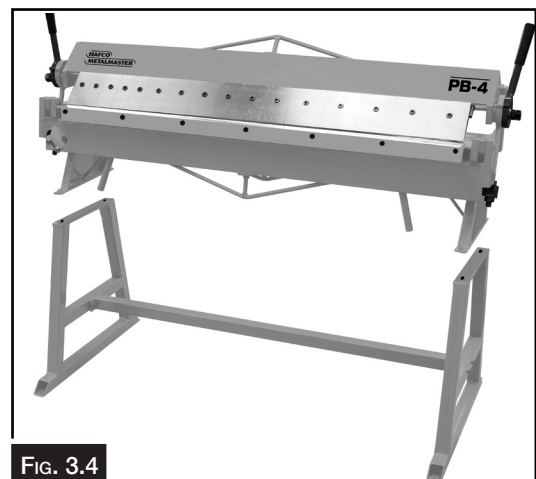

FIG. 3.4
2. Attach the cross support to the two side support legs with bolts and nuts supplied (Fig. 3.4)